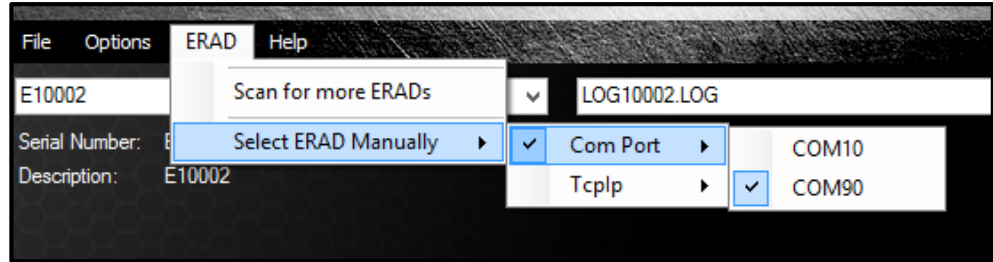

Figure 6.2-5: Com Port Selection from ERAD Menu
6. Select "Scan for more E-RADs" from the E-RAD menu (Figure 6.2-5).
1. Select "Select E-RAD Manually" from the E-RAD Menu (Figure 6.2-5).
2. Select "Com Port" from the menu (Figure 6.2-5).